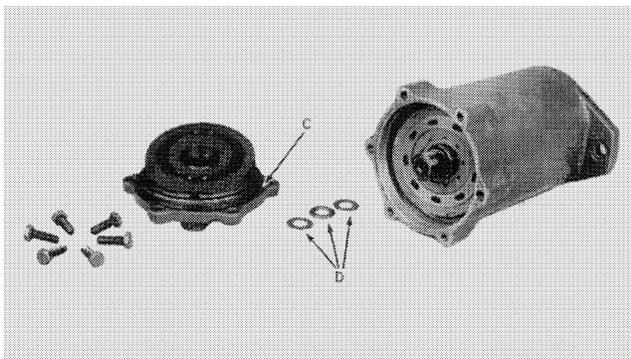

FIGURE 23
5. Remove O-ring, C, Figure 23, from back plate.
6. Remove thrust washers and thrust bearing, D, Figure 23, from back plate.
11. Install new O-ring, C, Figure 23, on back plate. Lay thrust washers and thrust bearing, D, on end of shaft. Install back plate and rotate back plate until all bolt holes are properly aligned. Install bolts and tighten to 15-18 ft. lbs. (20-24 N·m) torque.